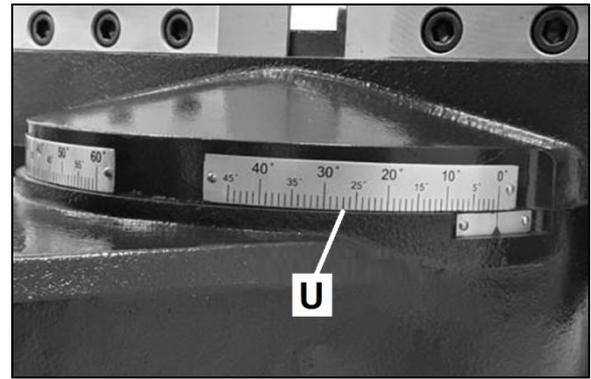

Figure 8-3: Mitre Scale
9. Rotate the saw bow to the desired angle by following the scale (U, Fig 8-3).